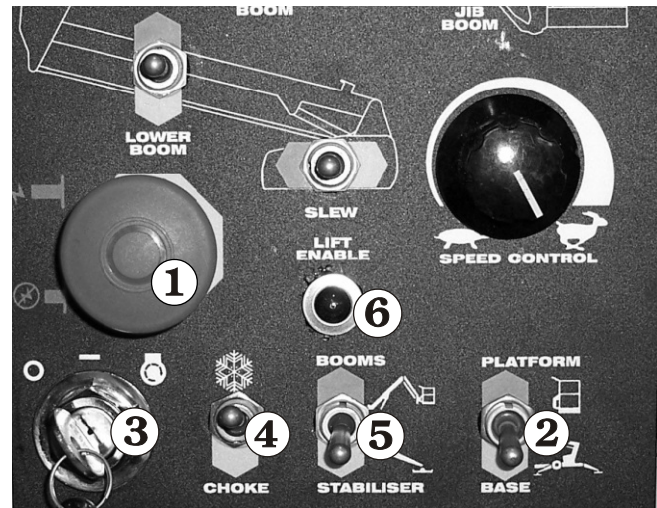

Figure 10.10 - Ground Control Box Starting
Ensure the Boom/Stabiliser Switch (item 5 on the ground control box) (see Figure 10.10 or 9.17) is set to stabiliser.
1. Set the **Emergency Stop** switch ① to ON (see Figure 10.10).
2. Set the **Platform/Ground Selector** switch ② to GROUND (see Figure 10.10).
3. Insert the key ③ (see Figure 10.10) into the **Master Key Switch** and turn the key on.
4. If the engine is at ambient temperature (cold), hold the **Choke / Cold Start Switch** ④ (see Figure 10.10) up throughout the next step.
5. Turn the key to **Start** and hold it there until the engine starts or for a maximum time of 6 seconds. When the engine starts release the key ③ and the choke switch ④, if you used it (see Figure 10.10).